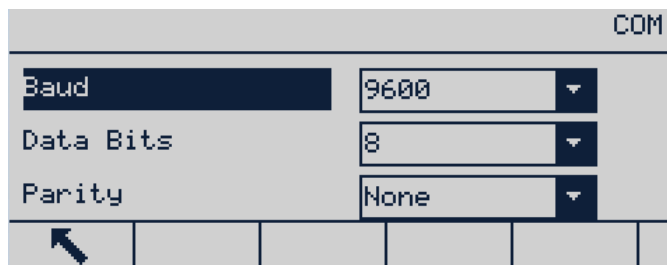

Figure B-26: COM1 Configuration Screen
6. Access **Communication | COM1** and check that the GT800 printer communication parameters are as shown in Figure B-26.